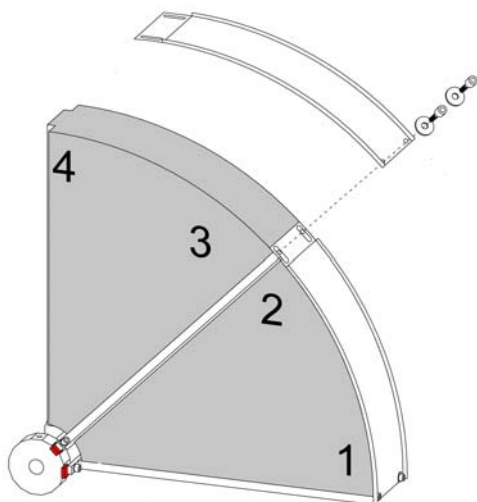

Figure 9
- During the assembly of the segments be sure to keep track of the numbering (segments are numbered in order, see Figure 9).
- To each new inserted segment, also attach an **circumferential panel** with M10x30 socket screws. Do not forget washers! **Screw in the screws only about half way!** Refer to Figure 9, 10, 11 and 12.